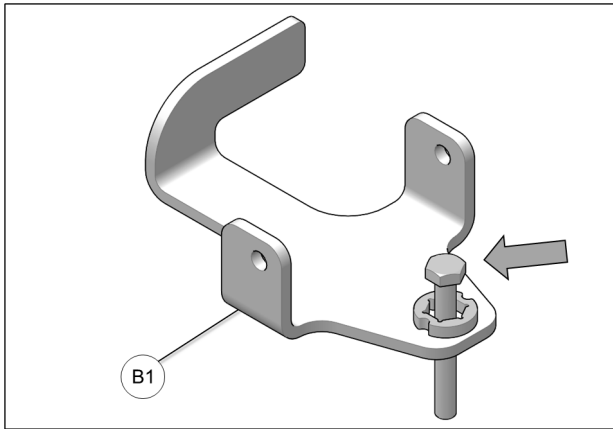

Fig. 4
4. Insert bolt in the rear anchor bracket (**B1**) as shown in Fig. 4